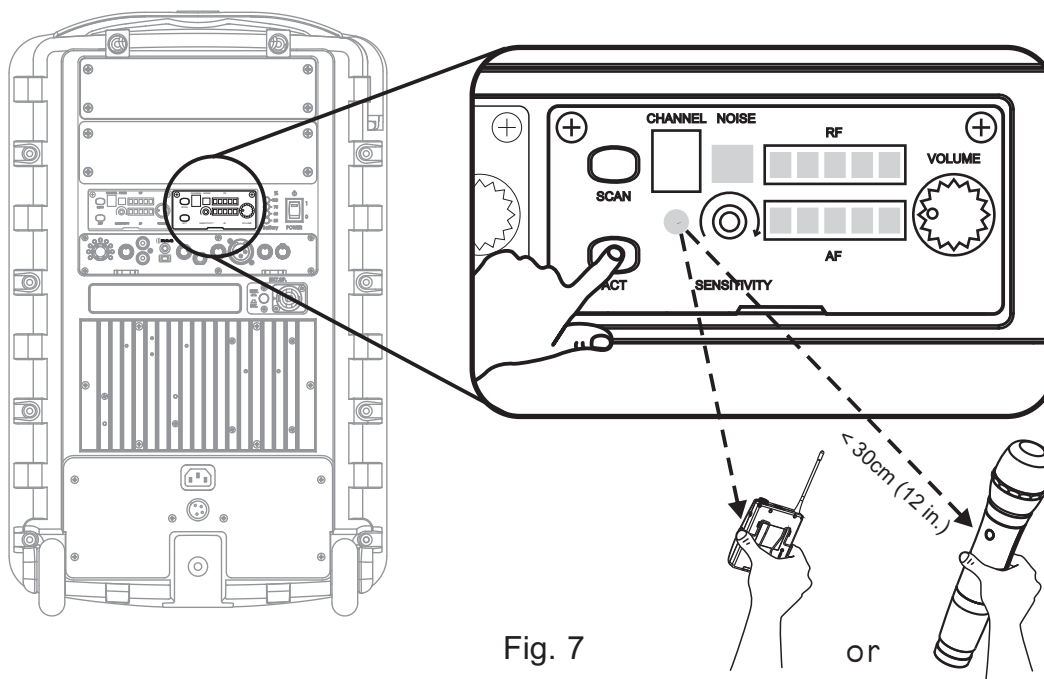

Fig. 7
- (1) Ascertain both receiver and transmitter are powered on. Press ACT button **A5** on receiver to activate IR (infrared) channel synchronization. Existing channel blinks **A7**.
- (2) Align the ACT sync windows of both transmitter and receiver within 30cm of each other for an automated channel synchronization. Fig. 7
- (3) If ACT channel synchronization is performed successfully, the new channel stops blinking, RF indicators are lit and audio indicators are lit once you speak into the microphone.